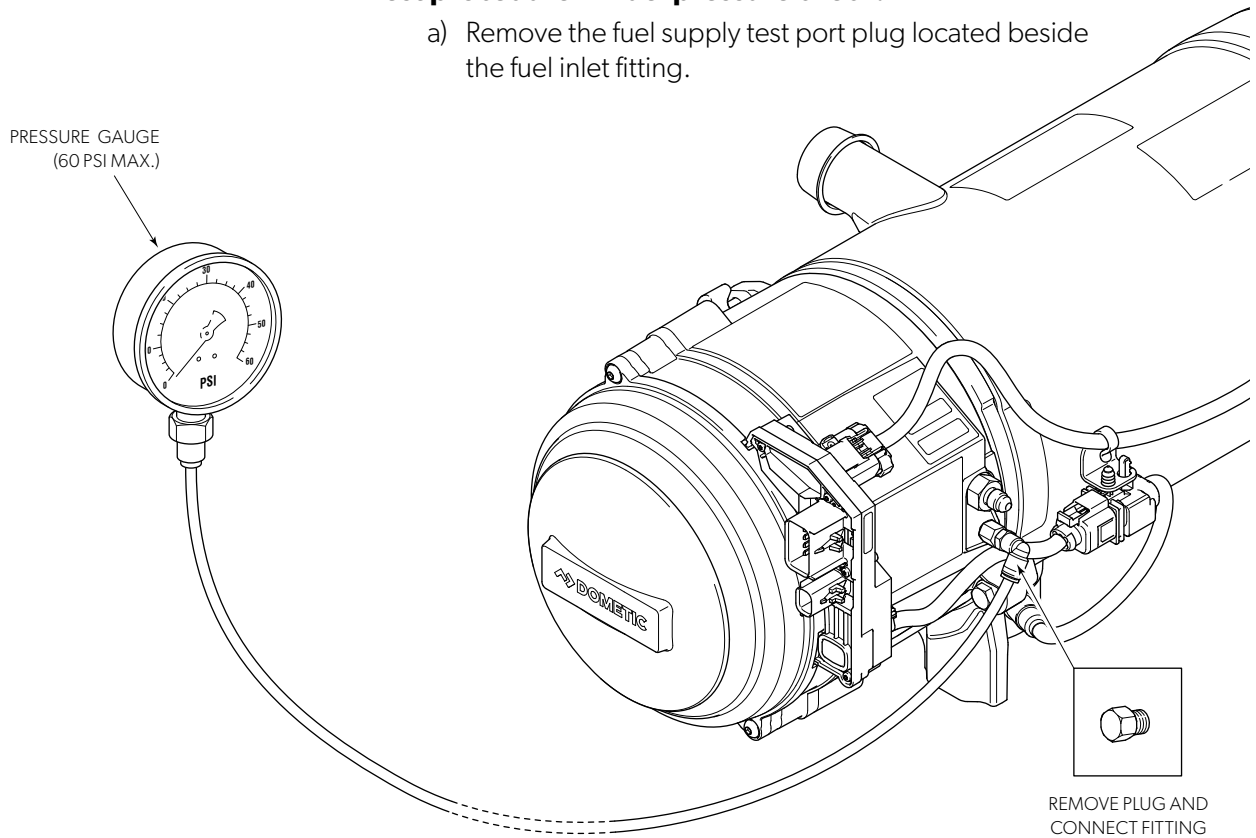

Figure 4-12.
- b) Thread in the pressure gauge and torque to 25 ± 3 in-lbs as shown in figure 4-12.